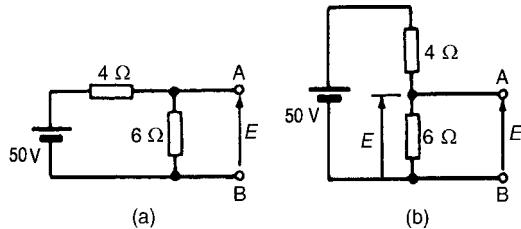

Figure 13.30
- (ii) The open-circuit voltage, E , across terminals AB in Fig. 13.30(a) is the same as the voltage across
the 6Ω resistor. The circuit may be redrawn as shown in Fig. 13.30(b)